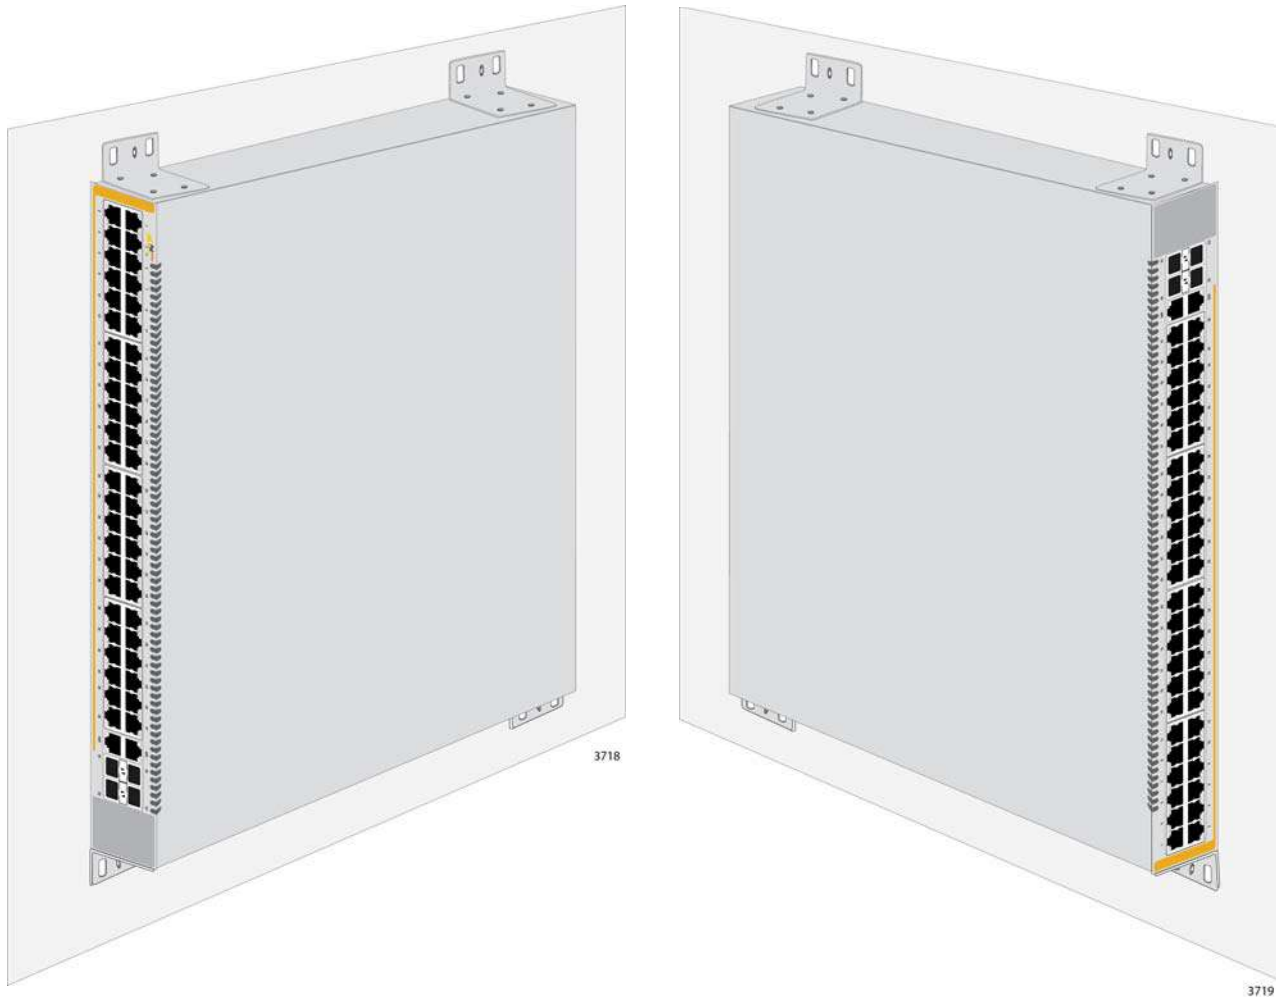

Figure 43. Positions of the Switch on the Wall
You may install the switch on a wall with the front panel on the left or right, as shown in Figure 43. You may not install it with the front panel on the top or bottom.
- ☐ Position the switch so that the front panel is either on the left or the right. Refer to Figure 43 on page 96. You may not install the switch with the front panel facing up or down.